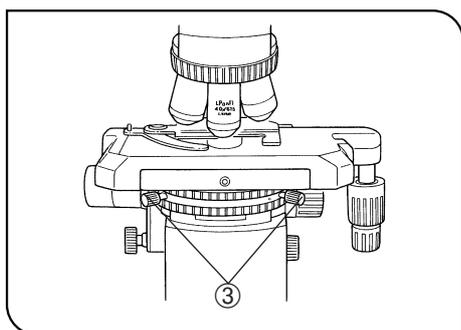

Fig. 34
3. Adjust the field iris diaphragm ② so that circumscribes the field of view.
7. Insert the two centering screws ③ into the optical device centering thread holes (above the ◀ markings) and adjust centering of the PH ring so that the bright ring overlaps the dark ring in the field. (Fig. 34)